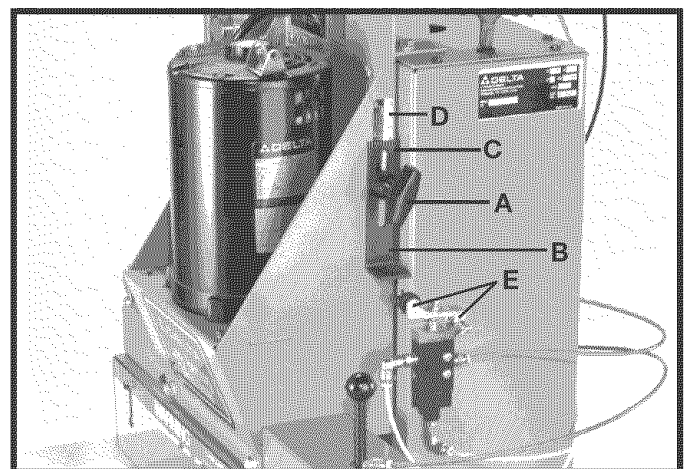

Fig. 52
1. A stop is provided to set the depth of the boring bits above the table surface. To control the downward travel of the boring head, loosen lock knob (A) Fig. 52, and move stop bracket (B) up or down until the edge (C) of stop bracket lines up with the desired mark on scale (D) you wish the boring bits to be above the table surface at the completion of the boring operation. Then tighten lock knob (A). A limit switch (E) is provided to stop the boring head from lowering. When bottom of stop bracket (B) contacts limit switch (E) the head will then automatically return to the up position.